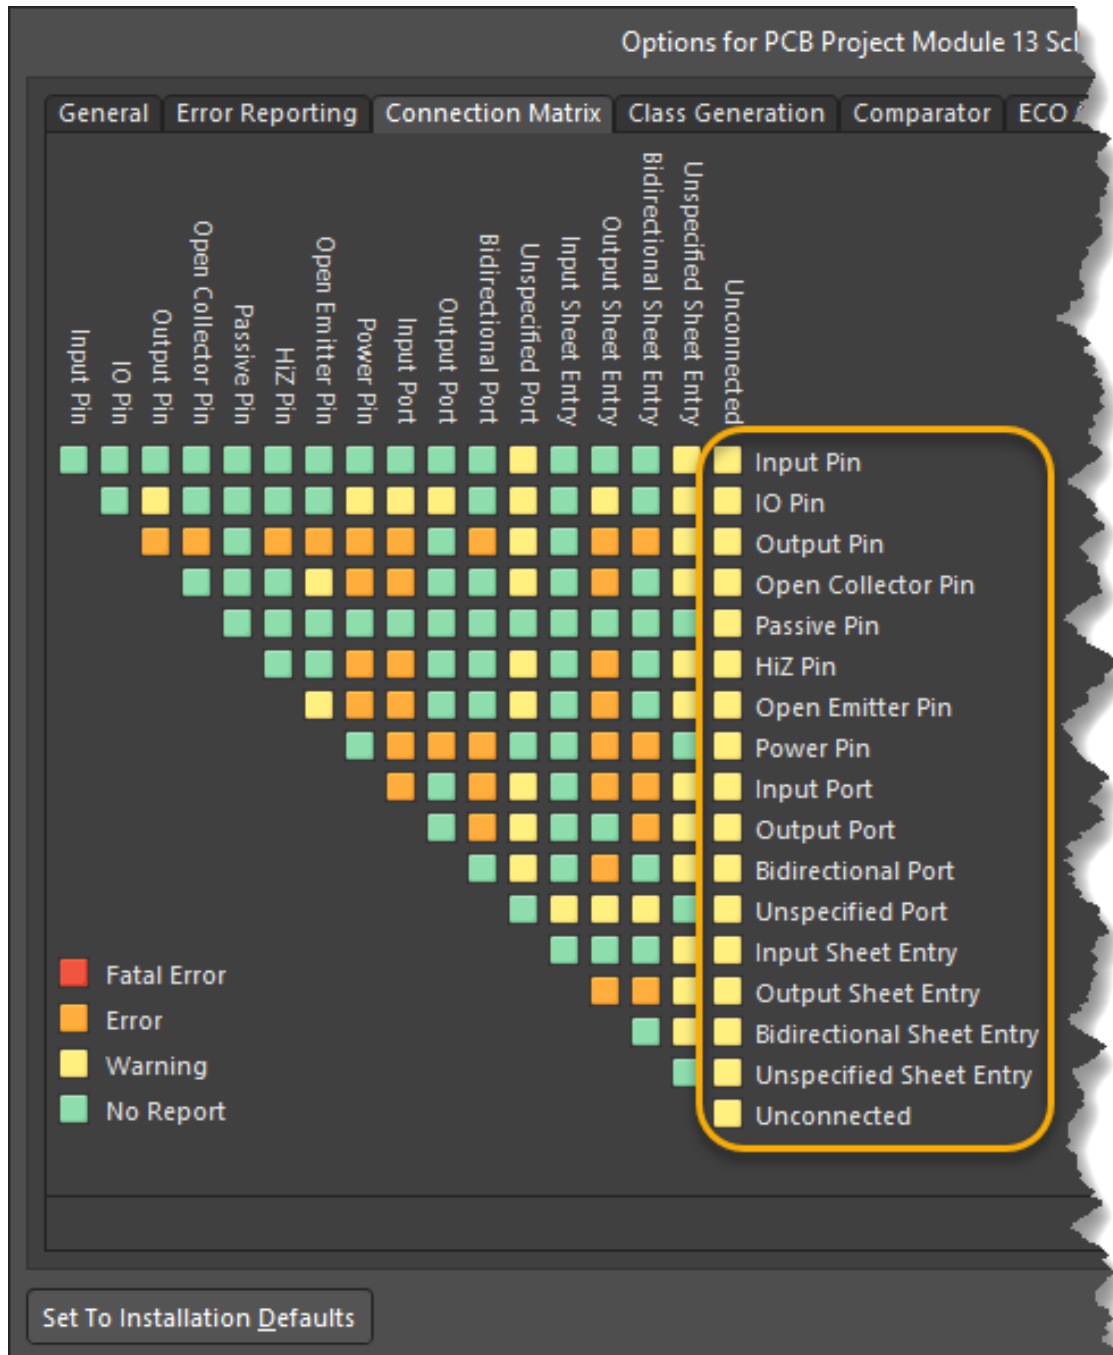

Figure 2. Connection Matrix Tab
12. Select the **Connection Matrix** tab. You can set the reporting mode for connections between different pins, ports and sheet entry types as shown in Figure 2.
13. Set all Unconnected options to Warning as shown in Figure 2.